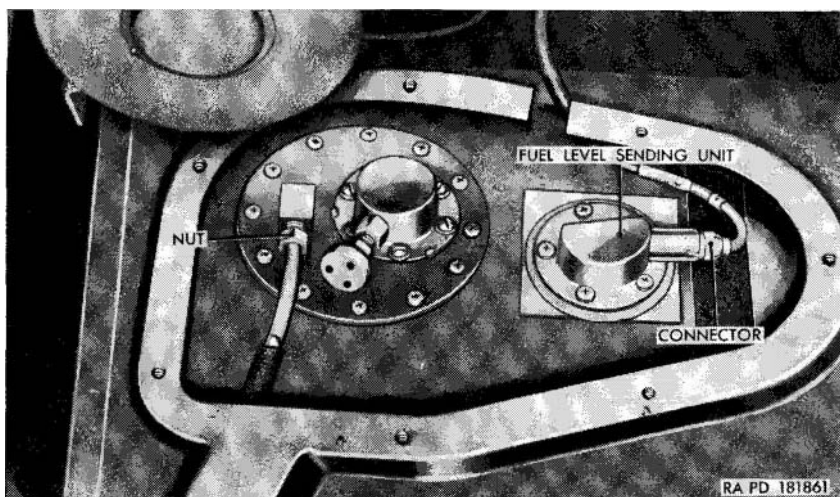

Figure 163.1. Fuel tank, fuel filter, and fuel level sending unit M170—installed—driver's seat and fuel tank units access plate—removed.
(fig. 163.1)
*f.* Connect the bayonet connector of the fuel level sending unit cable to the sending unit (fig. 163.1).